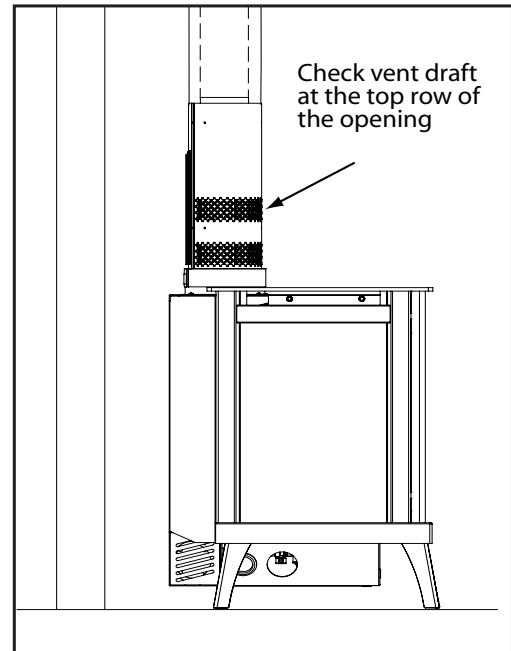

Figure 43: Draft test place.
4. After a minimum of 10 minutes operation, test the chimney draft with a smoke match at the top row of the pattern to confirm that there is adequate draft or 'pull' at the openings around the body of the Draffhood Adaptor, as shown in Figure 43.